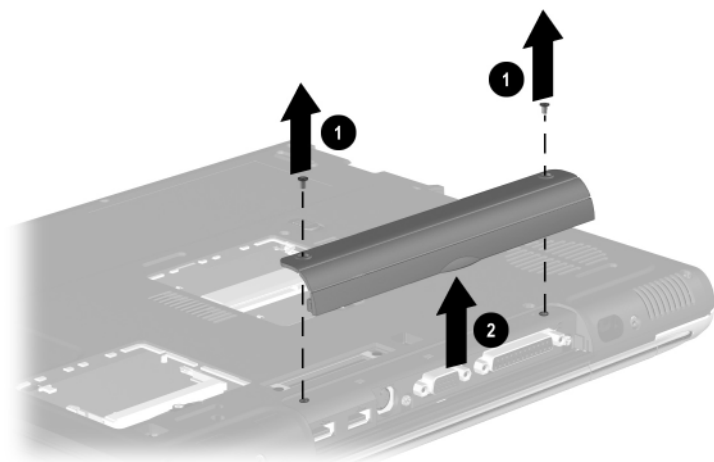

Figure 5-12. Removing the Connector Cover
3. Remove the two PM2.0 \times 5.5 screws ❶ that secure the connector cover to the base enclosure (Figure 5-12).
5. Remove the connector cover from the base enclosure ❷.